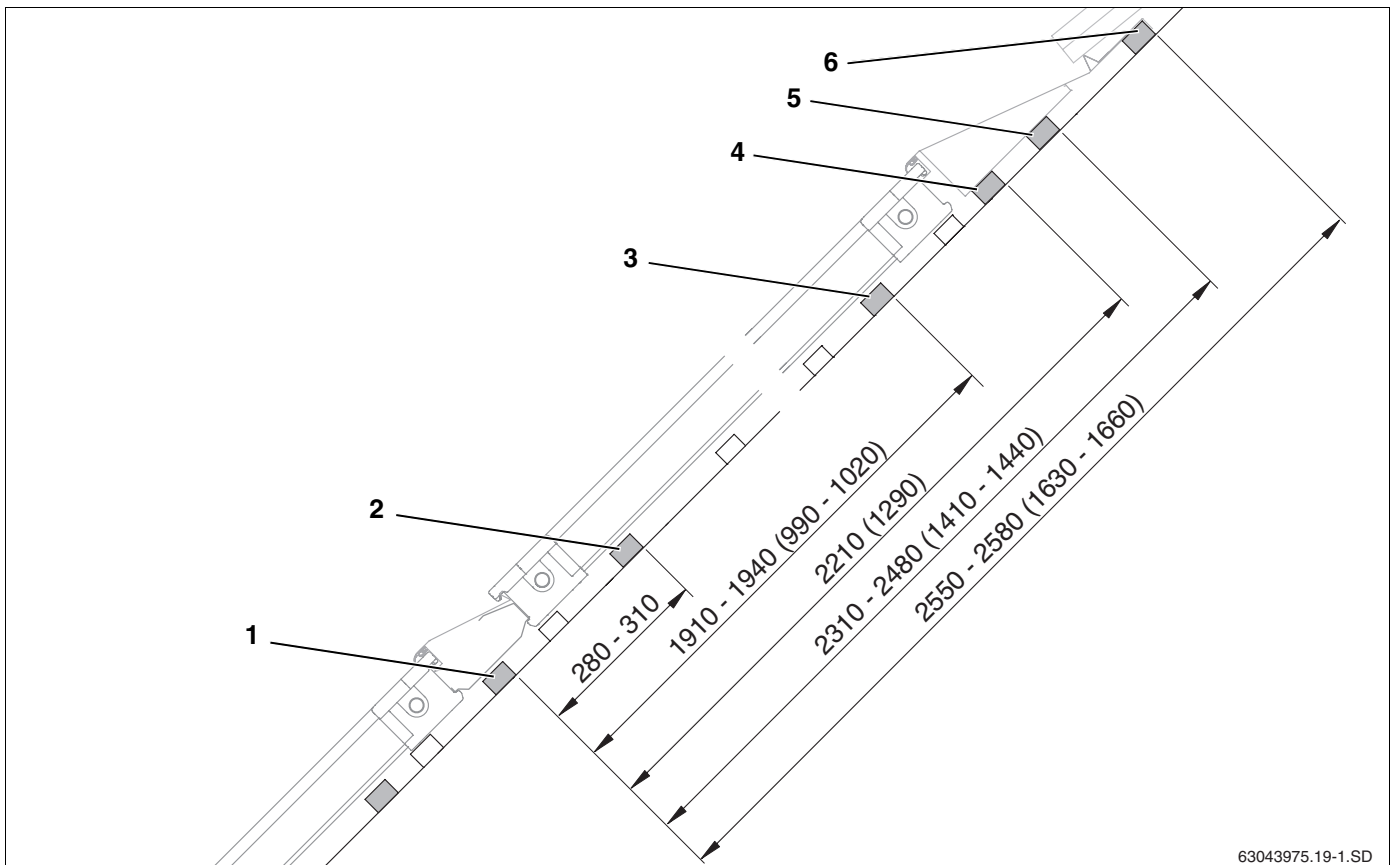

Fig. 15 Distances between additional roof battens when installing more than one row (measurements in mm, values in brackets = landscape version)
The fourth additional roof batten (one-row installation) is also the first roof batten of the row above (Fig. 15, **Item 1**) and is required for anti-slip protection on the upper collector array.
- ▶ Attach second roof batten for the side clamp (Fig. 15, **Item 2**).
- ▶ Attach third roof batten for the upper side clamp (Fig. 15, **Item 3**).
- ▶ Attach fourth roof batten for supporting the polystyrene wedge of the upper facing panels (Fig. 15, **Item 4**).
- ▶ Attach fifth roof batten for supporting the upper facing panels (Fig. 15, **Item 5**).
- ▶ Attach sixth roof batten for supporting and fastening the upper facing panels (Fig. 15, **Item 6**).